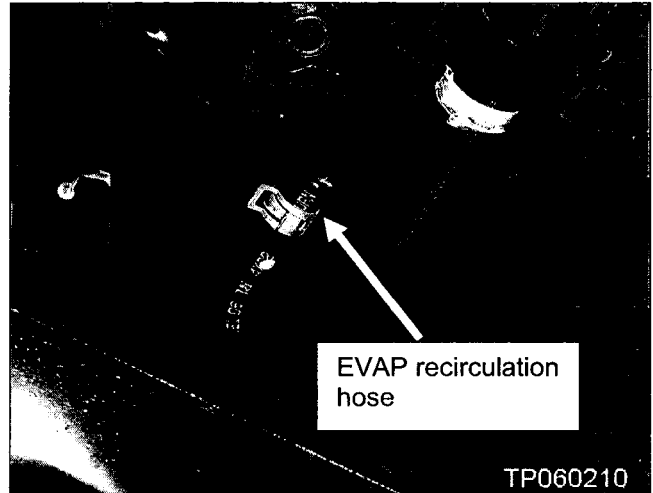

Figure 53
- Disconnect at the point shown in Figure 53.